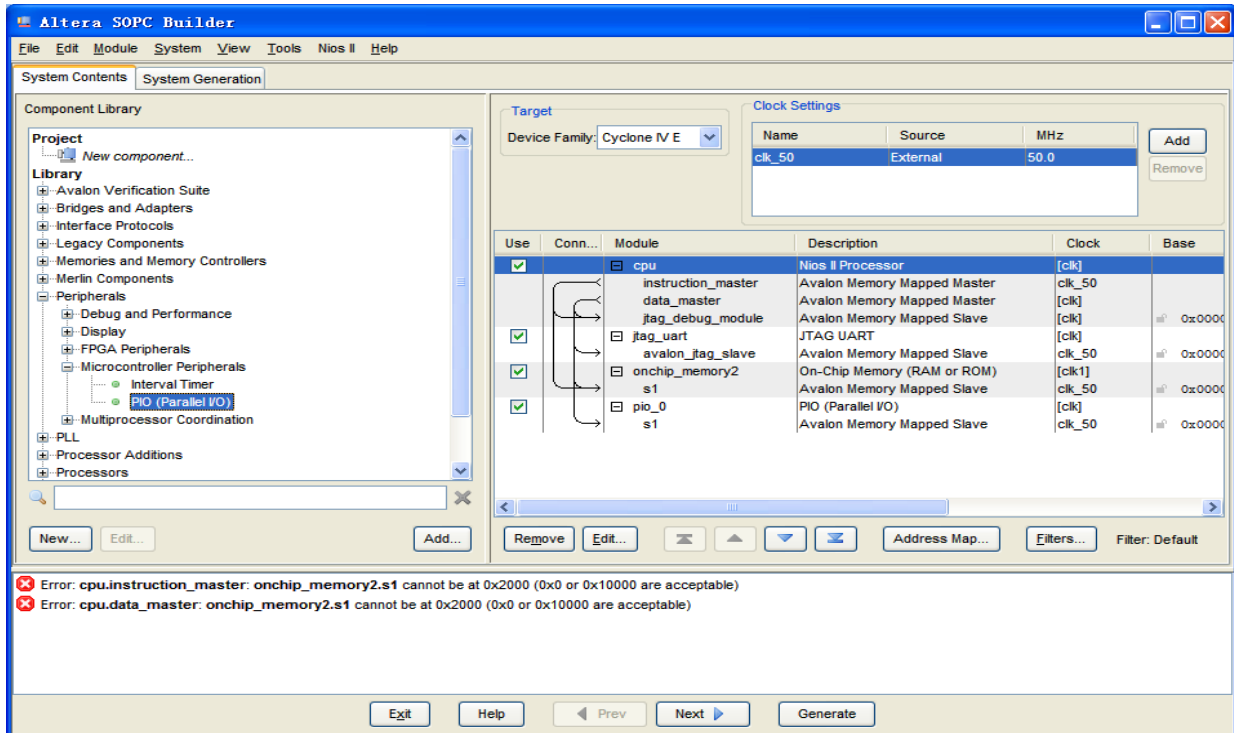

Figure 7-32 PIO
20. Click **Finish** to close PIO box and return to the window as shown in **Figure 7-32**.